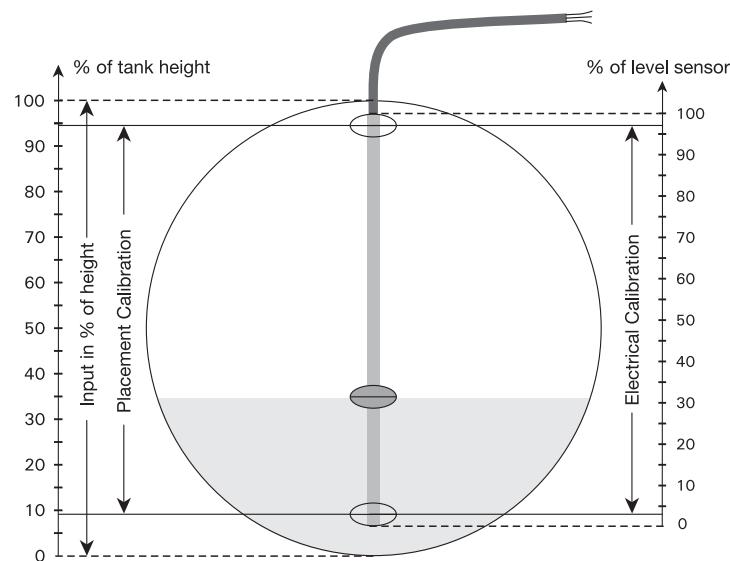

Figure 1, cross section of horizontal cylindrical tank
The following description of configuration with potentiometer input is based on figure 1. Please note that the PRelevel software only comes in an English-language version. Therefore the menu texts are represented here as they are seen on the screen. First choose the **[Input]** tab:
**[Electrical Calibration]** Enter the range to be detected by the connected potentiometer or let PRelevel measure the available range. The transmitter must be connected to the communications interface before the values can be measured. The values in figure 1 are Low = 3% og High = 97%.
The values in figure 1 are Low = 9% and High = 94%.
**[Input]** Enter the desired input span in relation to the height. When input Low and High are selected as 0 and 100%, the input can never go below 9% and above 94% due to the design and mounting of the level sensor. If the output span is 4...20 mA, the output will only vary between 5.44...19.04 mA. The values in figure 1 are Low = 0% and High = 100%.